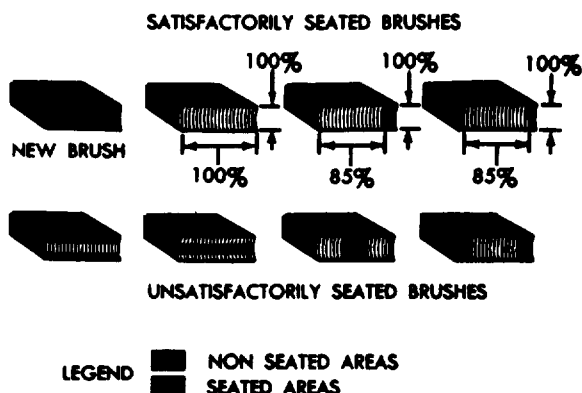

Figure 5-17. Proper brush seating.
- i. Run generator for 3 hours to polish brush seats on commutator. After run-in remove one brush assembly at a time, and inspect brush contact surface. Each brush should show polished seating area of 90 percent in axial direction and 100 percent in rotational direction (fig. 5-17). If brushes are not properly seated, continue run-in until properly seated, making brush inspection periodically.